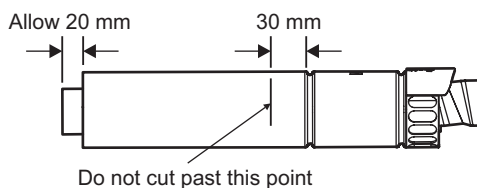

Fig. 5.12b
5.8 REDUCING THE FLUE - Fig. 5.12b
When the flue length required is less than the minimum stated in Section 4.5, paragraph 1, refer to Fig. 5.12b.